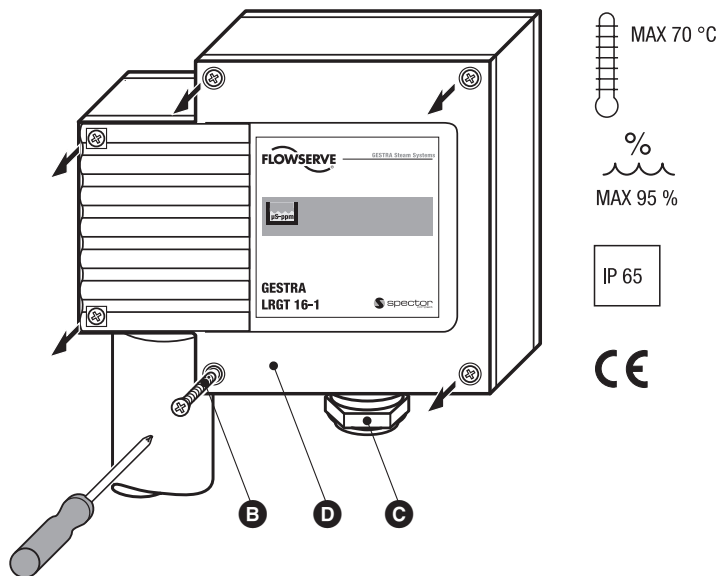

Fig. 5
1. Undo cover screws **B**, remove cover **D**, **Fig. 5**